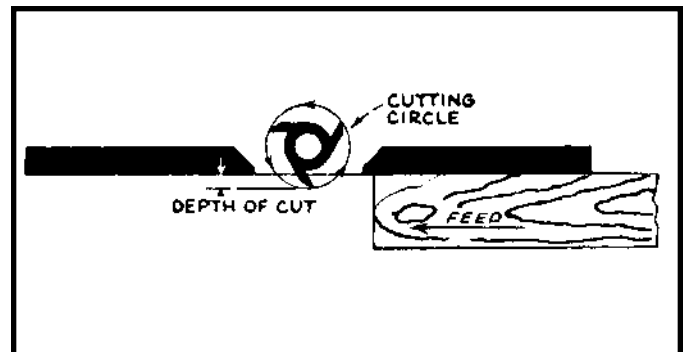

Fig. 60
1. For average work, where a portion of the original edge of the work is not touched by the cutter, both the front and rear fences are in a straight line, as shown in Fig. 60.